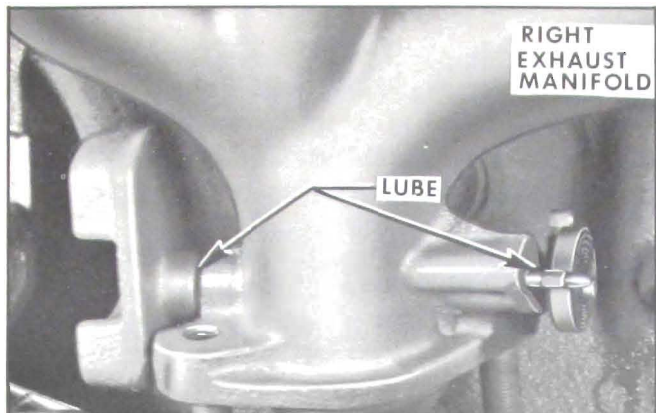

Figure 1-10—Manifold Valve
8. Manifold Valve Shaft. Place a few drops of "Buick Heat Trap Lube" or equivalent on shaft at each end and rotate shaft to work lubricant into bearings. See Figure 1-10. Buick Heat Trap Lube is available through Buick Parts Warehouses under Group 8.800.